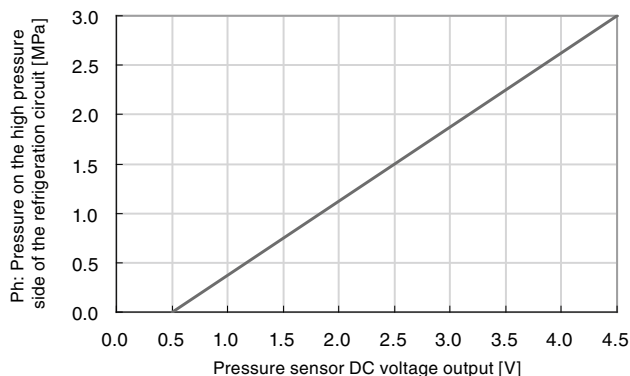

Fig. 4-44 Refrigerant circuit pressure sensor (for high pressure) analogue output
- (1) Check the “Ph: Refrigerant circuit pressure on the high pressure side” value in the “Check Monitor Menu”.
- (2) Check voltage by contacting the probe of the tester directly to the connector external surface with the “CN4” connector of the main board being inserted.
- (3) Contact the positive probe to the pin number 11 and contact the negative probe to the pin number 10 of the “CN4” connector.
- (4) Check that the voltage between the pin number 11 and the pin number 10 is in the same relationship shown in Fig. 4-44. (Accuracy: $\pm 5\%$)
- (5) If the voltage is in the same relationship as the graph shows, it means that the main board is operating correctly.